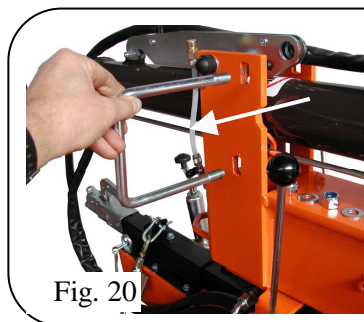
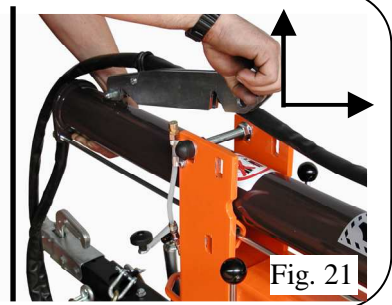

Fig. 20
Fig. 21
- Unscrew the clamp screws of the hydraulic cylinder U-bolt (Fig. 20) and remove the U-bolt. Lift the hydraulic cylinder slightly and return it to the transport position. (Fig 21)